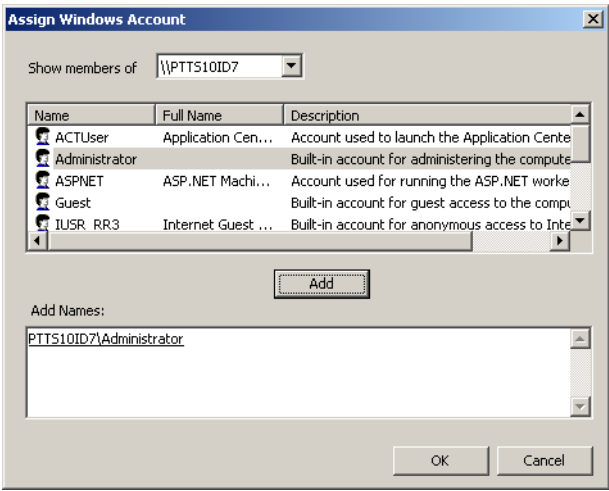

Figure 22. Assign Windows Account Dialog Box
- 2. The list of the Windows users of the selected domain are shown, see Figure 22. Select the Windows users you want to add to the System 800xA users and click **Add**.